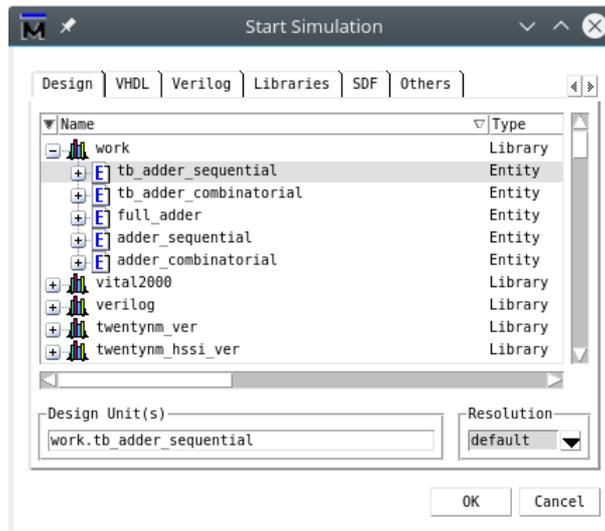

Figure 16: Start simulation
3. Select work > tb\_adder\_sequential, then press OK (Figure 16).